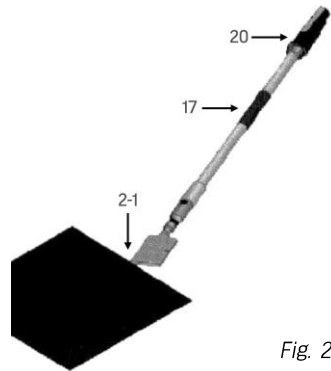

Fig. 2
2. Hold the handle grips (#17, 20) and place the tool at a 45-60° angle with the edge of the cutting tool at the desired location of the floor (Fig. 2).